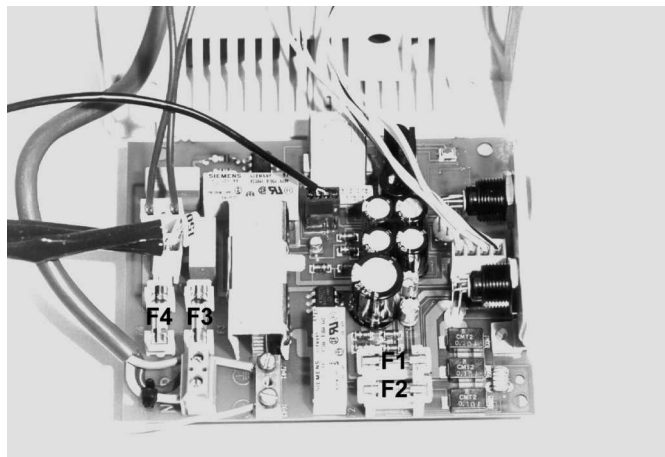

Figure 7.3 Showing location of the fuses on power PCB
2. The fuses can now be accessed. See Figure 7.3 for the location of the fuses on the power PCB.